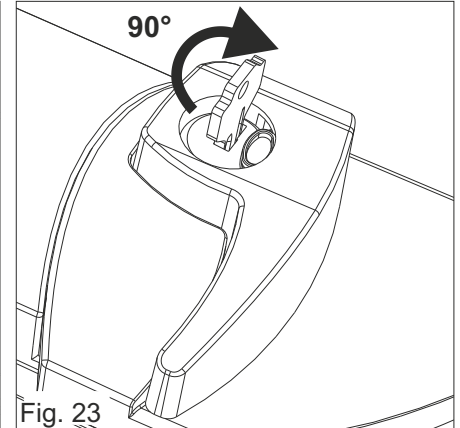

Fig. 23
- 2) Insert the key and turn of about 90° clockwise (Fig. 23)